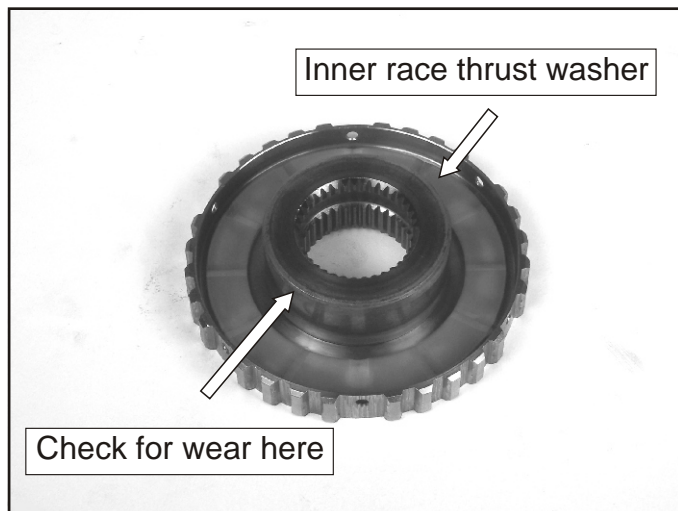

Figure 129
- 75. Turn the inner race upside down to check for wear in the area where the sprag rides. Replace as necessary. See Figure 129.